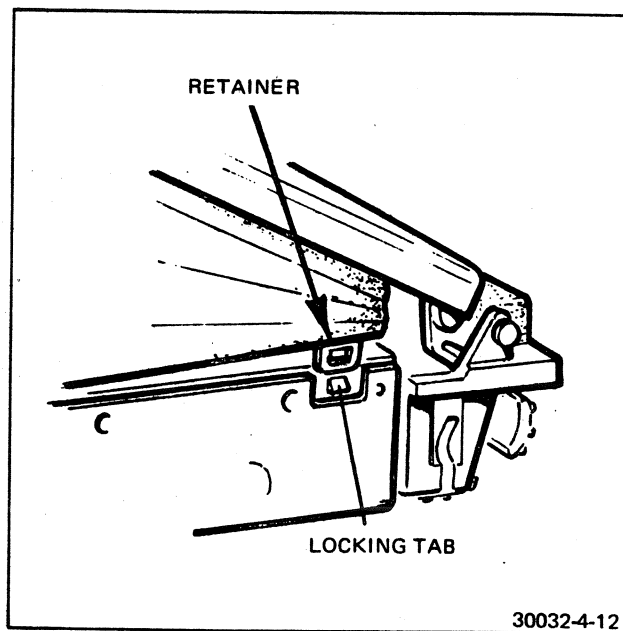

FIGURE 4-12 BOOT RETAINER
4. Snap the boot retainer over the tabs on the inner frame (see Figure 4-12).